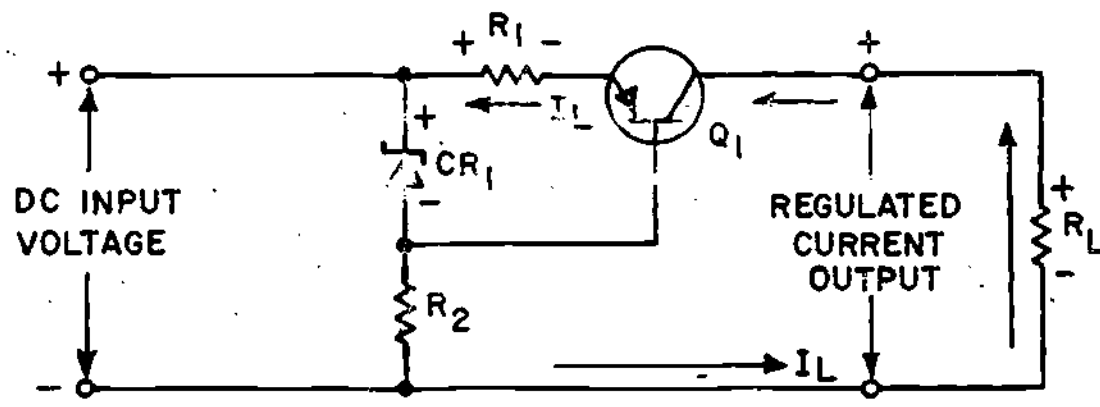

FIGURE 27
- (35) Since use of a variable resistor is not a practical way to control current fluctuation or variation, a transistor and Zener diode, together with necessary resistors, are used. Recall that the Zener diode provides a constant reference voltage. The schematic shown in Figure 27 is that of a current regulator circuit.
Except for the addition of R_1 , the circuit shown in Figure 27 is similar to a series voltage regulator. The resistor is connected in series with the load and senses current changes in the load.